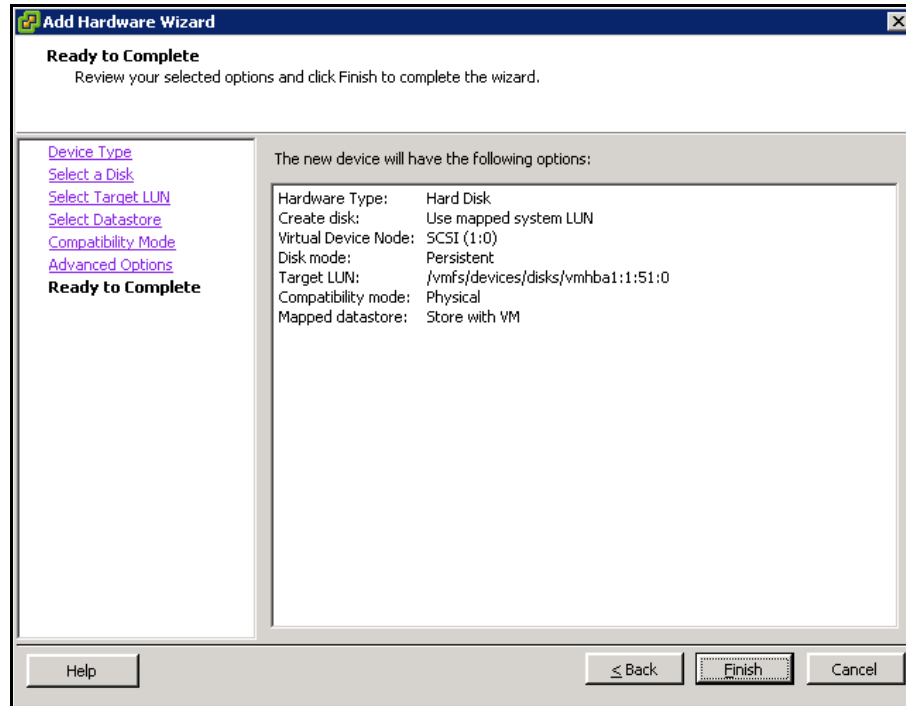

Figure 4-31: Ready to Complete Screen (Add Hardware Wizard)
12. Click **Next**. The Ready to Complete Screen appears (Figure 4-31).